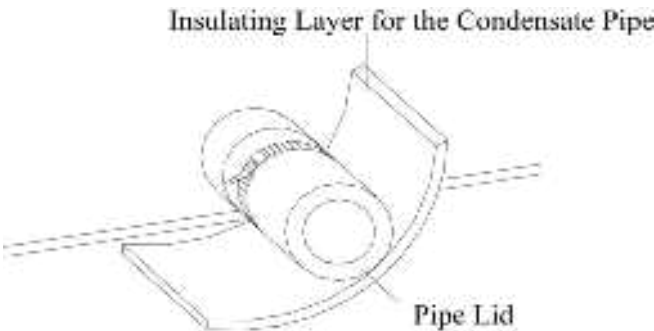

Fig.13 Thermal Insulation of the Condensate Pipe
a. The condensate pipe should keep a inclination angle of $5^{\circ} \sim 10^{\circ}$, which can facilitate the drainage of the condensate water. And the joints of the condensate pipe should be insulated by the insulation material to prevent condensing(see Fig.13).